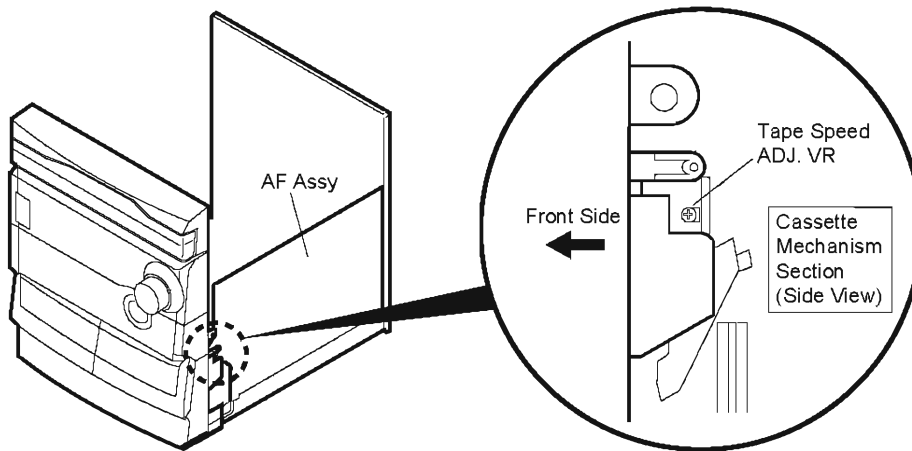
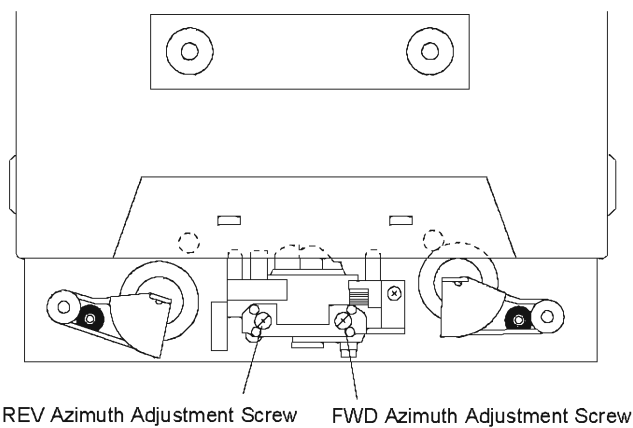
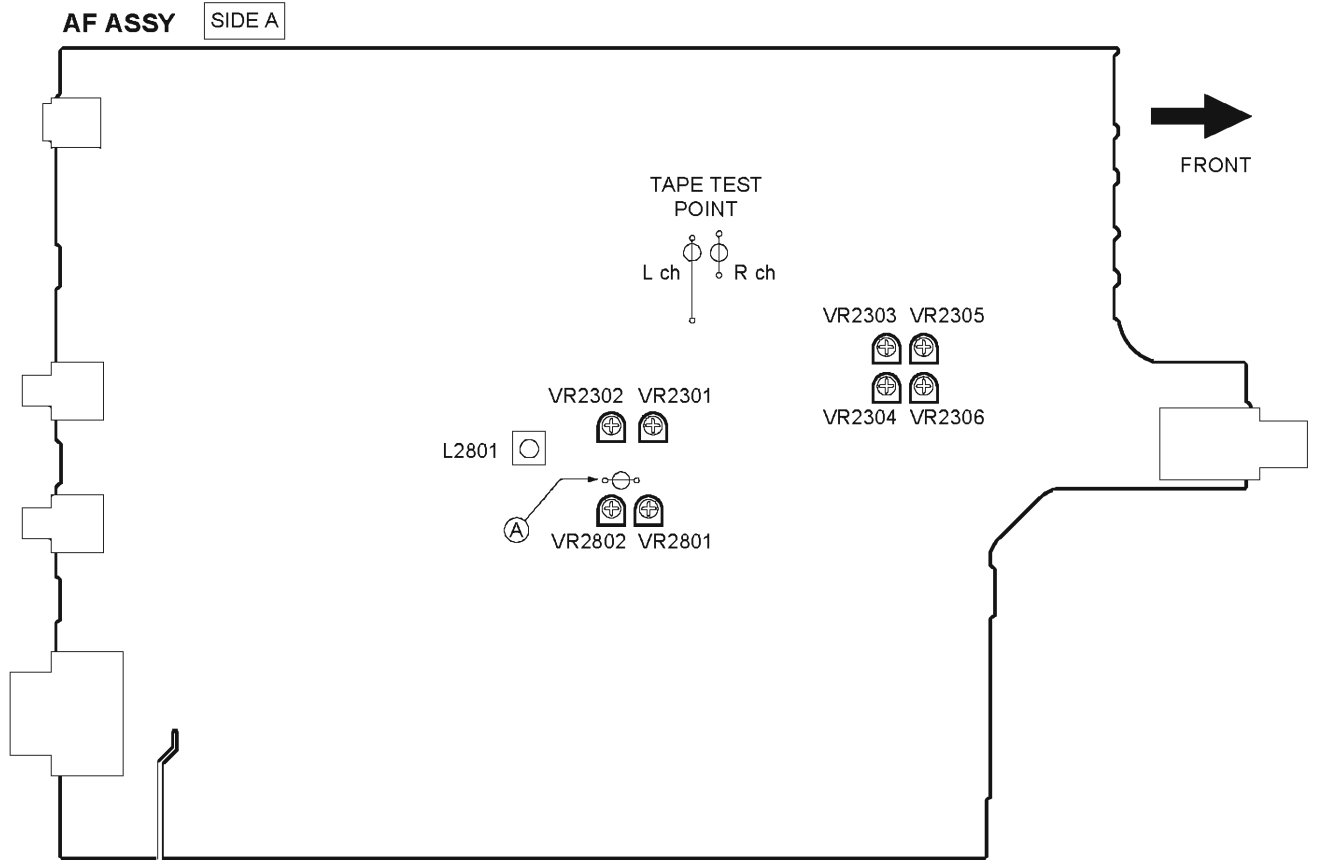

Fig.3 Tape Speed ADJ. Point
Fig. 5 Head Azimuth Adjustment Screw
Fig.7 Adjustment and Measurement Points
- Adjustment points and test points are shown in Fig.3, Fig.5 and Fig.7.